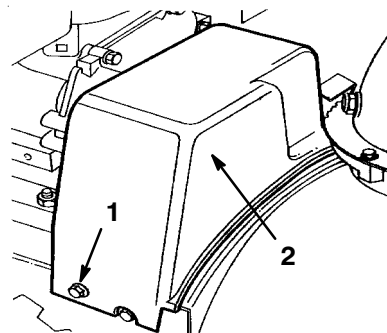

Figure 21
3. Remove the two screws that hold the belt cover in place and set the cover aside (Fig. 21).
- Remove the two screws that hold the belt cover in place and set the cover aside (Fig. 21).